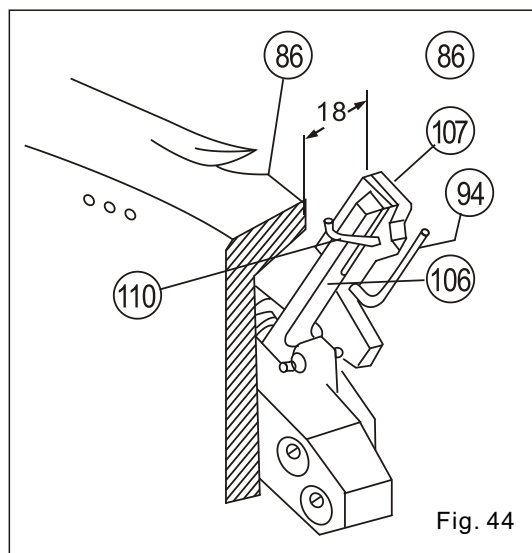

Fig. 44
(3) Operate the machine with hand to make the closed thread tension devices (No. 106 and 107 in Fig. 44) to their horizontal terminal on the right. The space between the right and left sides of thread loading disc (No. 86 in Fig. 44) and the center of the closed thread tension device shall be 18mm. Adjust the two ends of the connecting rod (No. 100 in Fig. 41) to change this space.
As indicated in Fig. 44.